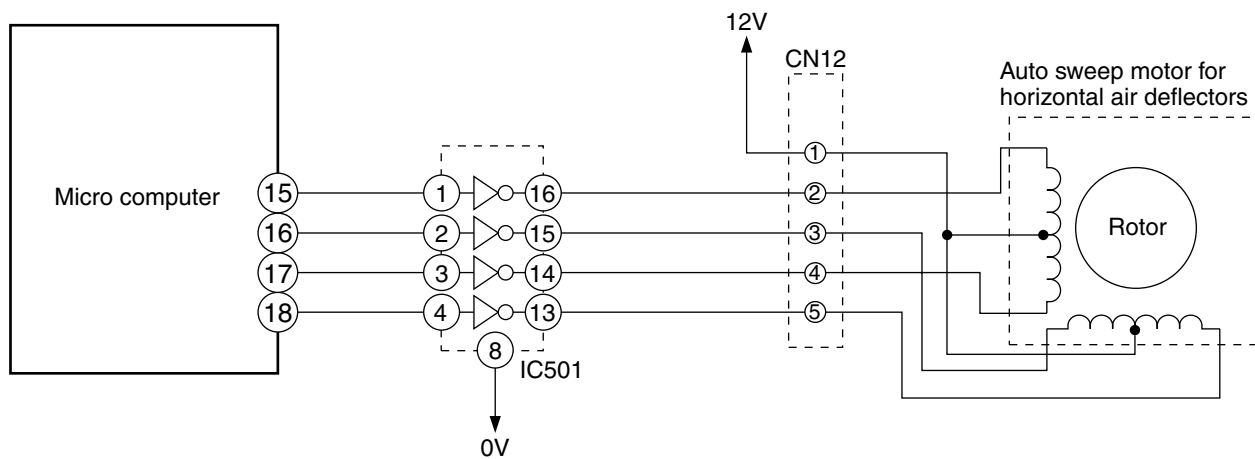

Fig. 5-1 Auto Sweep Motor Circuit (Horizontal air deflectors)
- Fig. 5-1 shows the Auto sweep motor drive circuit; the signals shown in Fig. 5-2 are output from pins ⑮–⑱ of the micro computer.